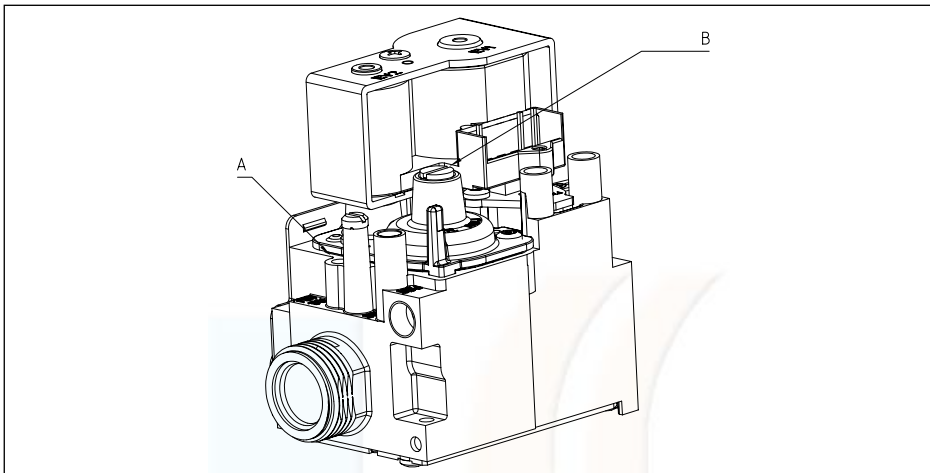

Fig. 23 Setting screws
The CO2 and O2 levels can be adjusted by following the procedure below. Any adjustment required can be done via the setting screws on the gas block, see *Fig. 23*.
- After reaching the full load speed, allow the boiler temperature to rise and settle to about 70°C, measure the O2/CO2 percentage and compare it with the value in the table. Correct, if necessary, the gas/air ratio with the aid of set screw **A** on the gas block (see Fig. 23).
- Correct, if necessary, the gas/air ratio with the aid of set screw **B** on the gas block (see Fig. 23).